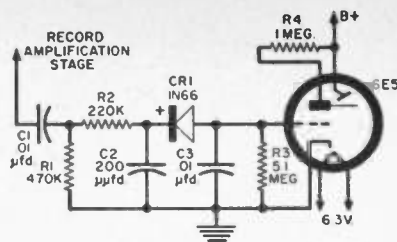

Fig. 3. Typical electron-ray tube circuit uses "floating action." See text.
→ Fig. 3. (A) Configuration of constant- k "T" section and (B) m -derived "T" section.
A circuit such as Fig. 2 allows the electron-ray tube to flicker rapidly as it follows the changes in audio signal and is, therefore, difficult to gauge the maximum eye indication. To correct this condition a "floating action" circuit, like that shown in Fig. 3, is often used, maintaining the eye for a short while at the maximum position reached.
If it becomes necessary to replace CR_1 in a circuit similar to Fig. 3, the same type of diode must be used. If a popular diode such as the 1N34 were used as a replacement, its much lower back resistance would impair the performance of the circuit. Instead of a crystal diode, some tape recorders employ the spare half of a dual triode—with plate and grid tied to form a diode—in order to achieve the required high back resistance.
Ordinarily it is of fundamental importance that the bias current supplied to the record head does not reach the record-level indicator, thereby causing the latter to give a false reading. In Fig. 2, bias current is filtered out by C_2 in conjunction with R_1 and R_2 . In Fig. 3, filtering is essentially due to C_2 in conjunction with R_2 . In Fig. 4, filtering is accomplished by C_2 and R_1 . In Fig. 5, we have the exceptional case where bias current is deliberately allowed to reach the neon lamps, as will be further discussed below.
If adjustments are desired in the circuits of Figs. 2, 3, and 4, one could change values in the voltage-divider networks. In Fig. 2, one could change R_1 . In Fig. 3, one could change R_2 , although this would also require corresponding changes in C_2 and R_2 to preserve the "floating action" time-constants of the circuit. In Fig. 4, R_2 or R_3 could be changed to place a different "bias" voltage on the lamp.